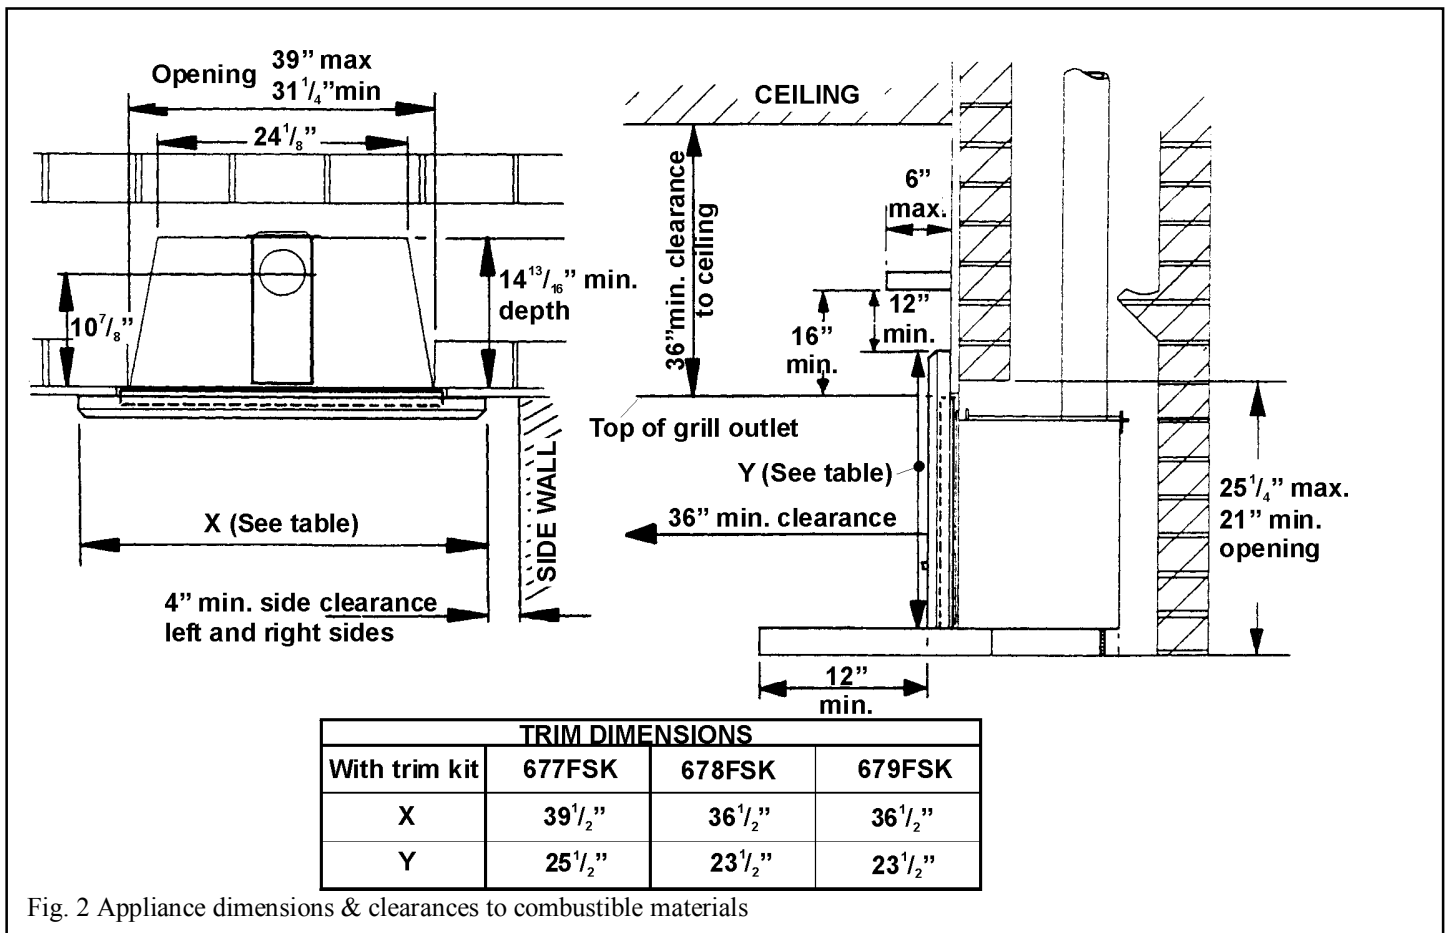
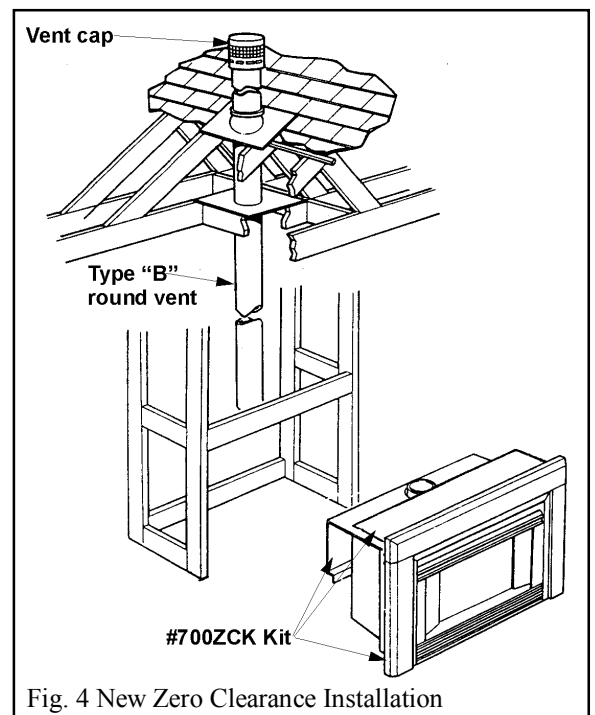

Fig. 2 Appliance dimensions & clearances to combustible materials
Fig. 4 New Zero Clearance Installation
- i. As an insert in an existing solid fuel type fireplace with a chimney and 4" dia. liner – See figure 1. The fireplace must be built in accordance with the national, state, provincial or territorial building code recognized by the authority having jurisdiction, or, in the absence of such a code, in accordance with the National Building Code of Canada or the National Fire Protection Association Code in the USA. The size of the fireplace recess must be sufficient to accommodate the fireplace case as shown in figure 2.
The minimum clearances from any combustibile constructions at the front of the appliance are shown in figure 2. These front clearances apply to all installations – Whether in a solid fuel fireplace, new zero clearance construction or free standing. If it is intended to fit the appliance in a combustibile recess, the Zero Clearance Kit #700ZCK (available from your dealer) must be used as shown in figure 4.